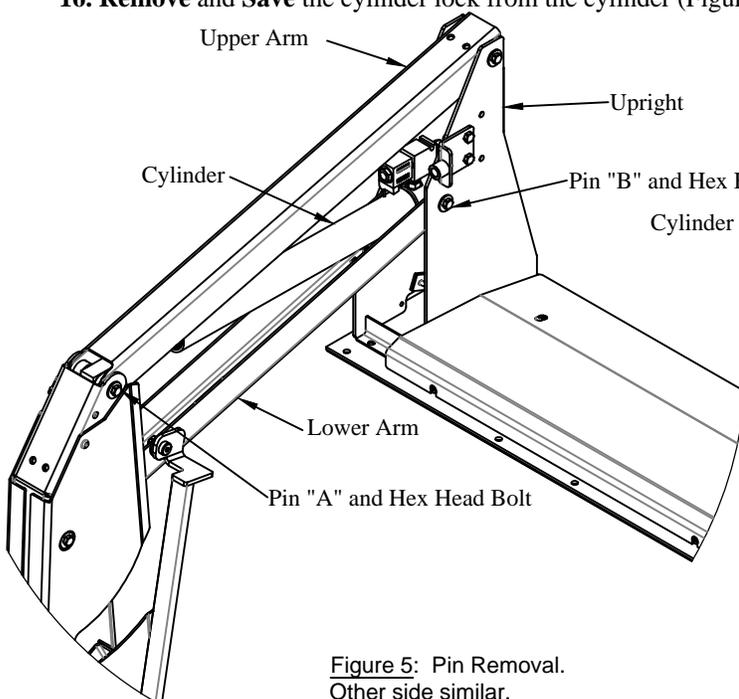

Figure 5: Pin Removal.
3. **Remove** and **Discard** the hex head bolts from pins "A" and "B" (Figure 5).
4. **Place** a rag or piece of cardboard in the lower arm to protect the paint from the cylinder (Figure 5).
5. **Remove** and **Discard** pin "A" (Figure 5).
13. **Remove** and **Discard** pin "B" (Figure 5).